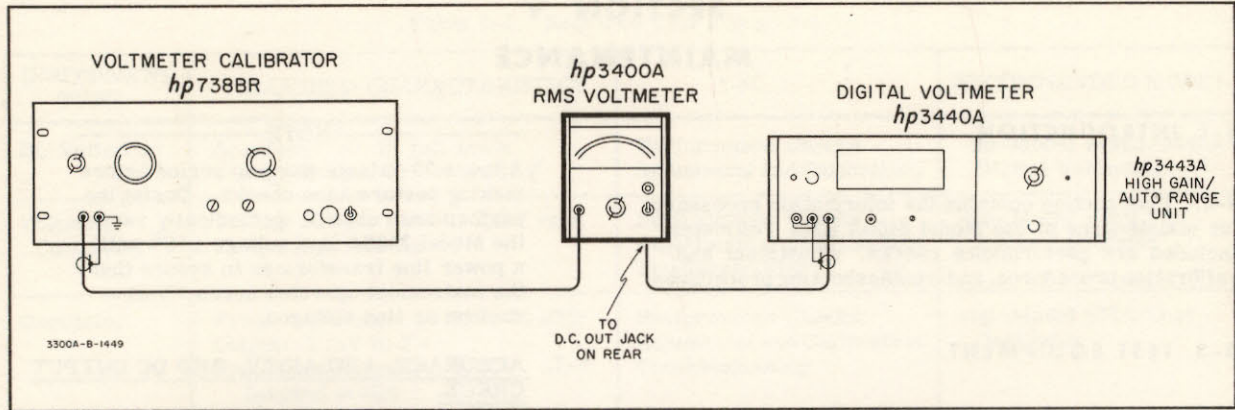

Figure 5-1. Accuracy, Linearity, and DC Output Test Setup
5-8. The accuracy, linearity, and dc output test setup is illustrated in Figure 5-1. A Voltmeter Calibrator -hp- Model 738B and a DC Voltmeter -hp- Model 3440A/3443A) are required for this test.
- a. Connect test setup illustrated in Figure 5-1.
- a. Connect test setup illustrated in Figure 5-1; omit the DC Voltmeter.